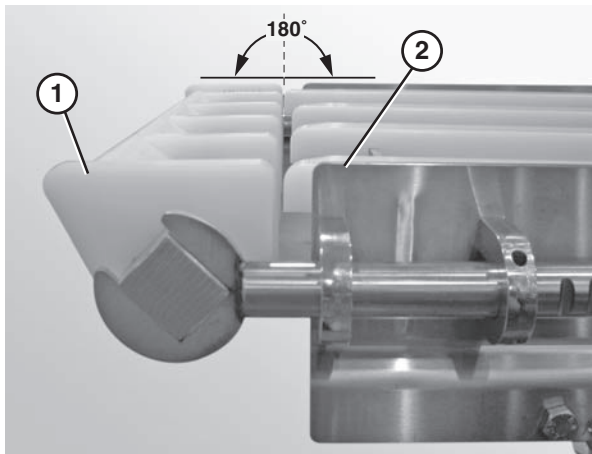

Figure 20
3. Ensure that the nose bar pucks (**Figure 20, item 1**) are in line with the conveyor frame (**Figure 20, item 2**).